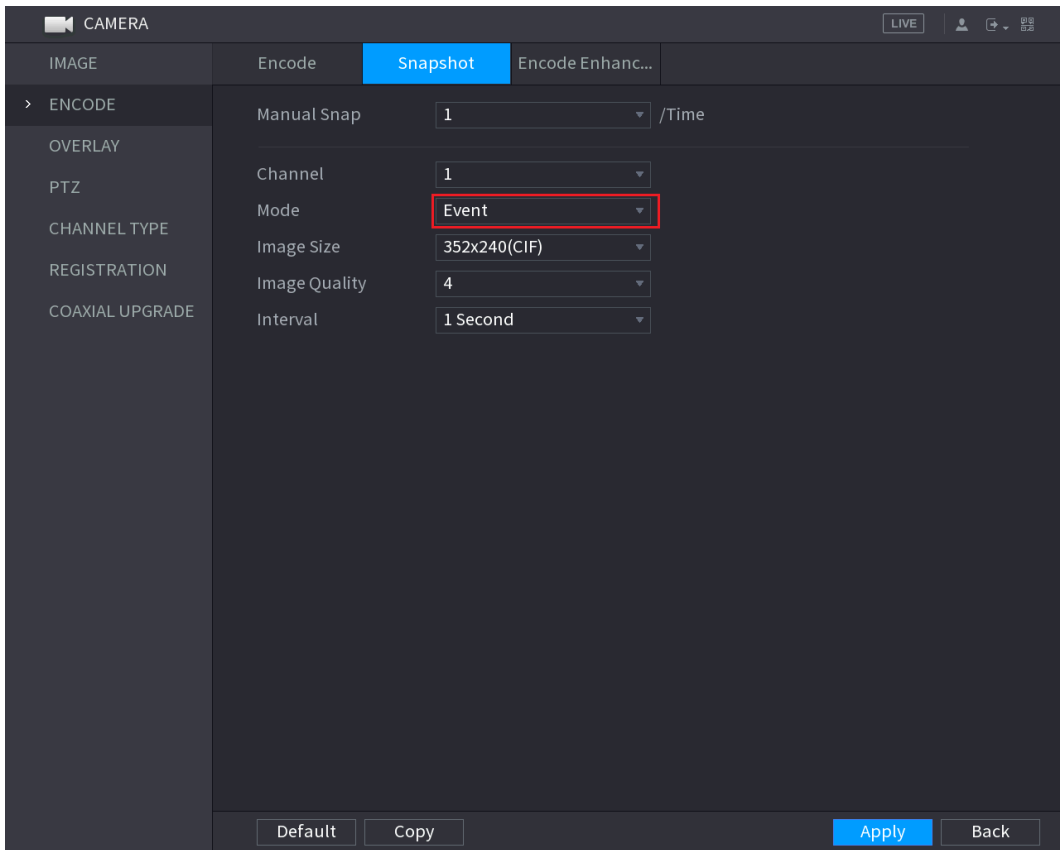

Figure 5-98
**Step 2** In the **Mode** list, select **Event**, and then configure other parameters. See Figure 5-98.